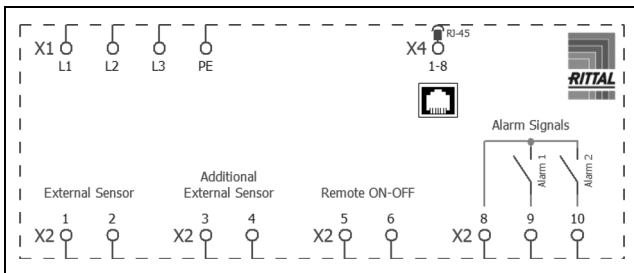

Fig. 32: Circuit diagram
- Remove the mains connector from the dispatch bag and connect to the mains as shown on the connection diagram (fig. 32).